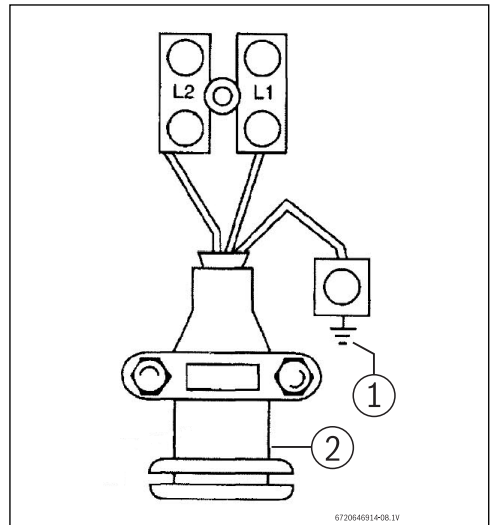

Fig. 4 Cable termination
- ▶ Connect the cables to the terminal block and ground stud (Fig. 4):